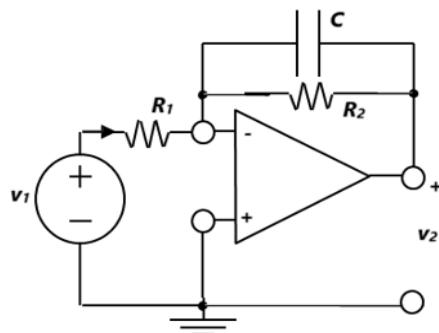

Fig. 4.3 Practical Integrator
Unfortunately, this circuit will never work in practice, because any non-zero average (DC) value of v_1 , as well as the very small but nonzero current flowing into the OpAmp input terminals will lead to a continuous change in the output voltage, eventually forcing the OpAmp to go into voltage saturation. So practical integrators include a second resistor R_2 in parallel with the capacitor as shown in **figure 4.3**.
- Set up the practical integrator shown in figure 4.3 with $R_1=10\text{ K}\Omega$, $R_2=200\text{K}\Omega$ and $C = 0.01\text{ microfarad}$. Follow the standard opamp pin connection for assembling the circuit including the connections to the DC power supply.